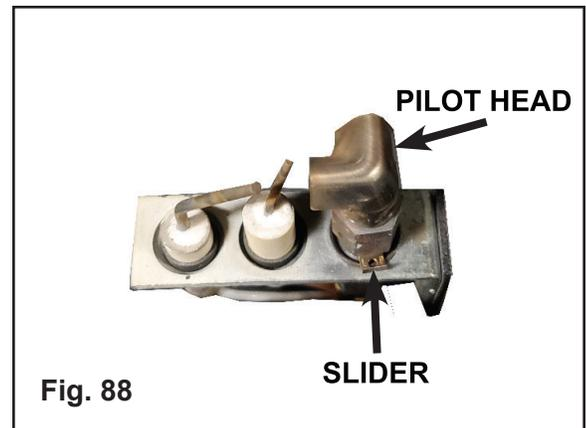

Fig. 88
2. Convert the pilot injector: (**Fig. 88**)